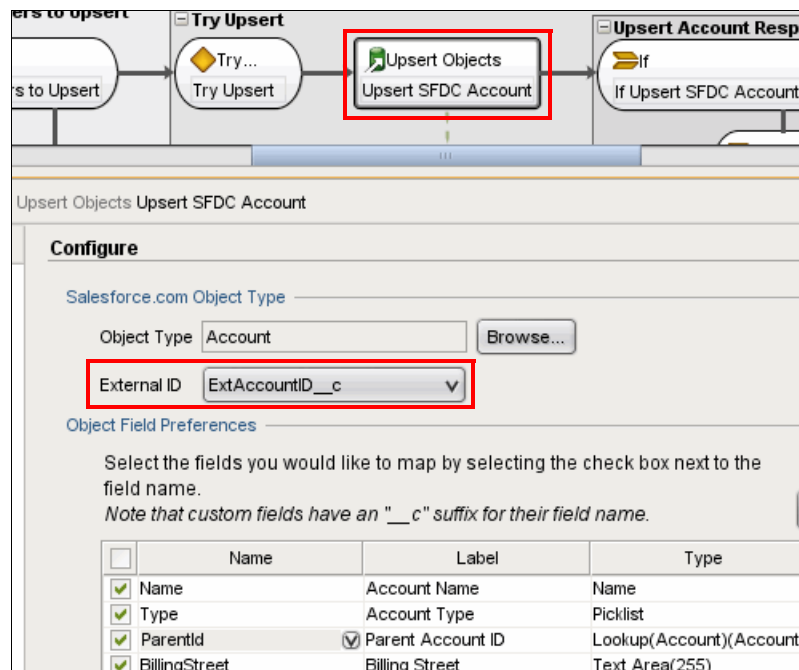

Figure 10-40 Upsert configuration
1. As shown in Figure 10-40, the external ID is defined as ExtAccountID\_\_c. This ID was set in the template configuration wizard in "Obtaining Salesforce.com custom fields" on page 369.